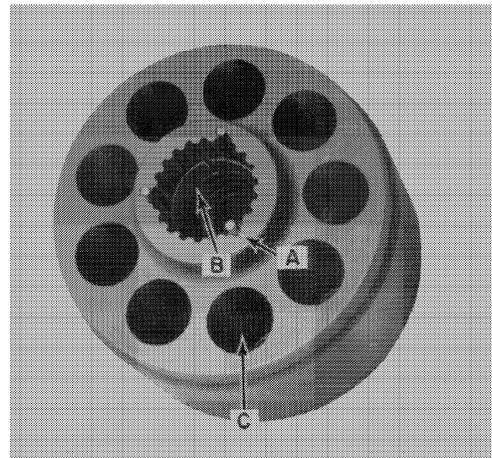

FIGURE 4-20
- a. Cylinders, C, Figure 4-20, are worn or scored so the pistons do not move freely.
- d. The three block loading pins, A, Figure 4-20, are spring loaded. They are held in place by the pin keeper (split bushing), B.